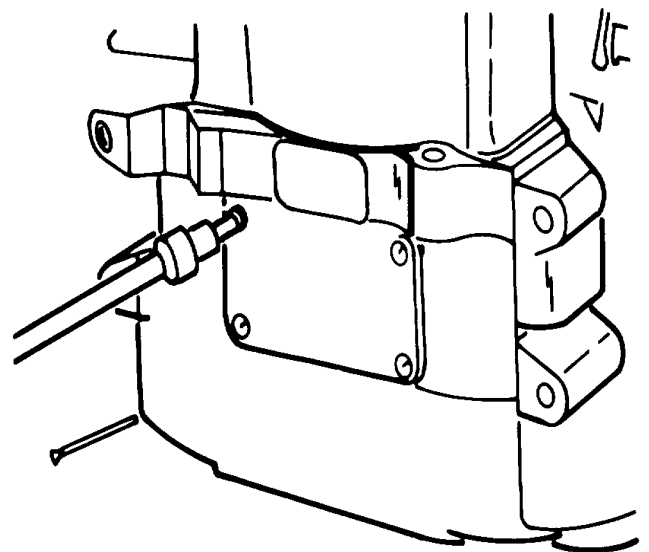

Figure A-19. Connecting Rod
o. Connecting Rod. Turn the engine onto its flywheel side. Remove the crankcase inspection cover by removing the six allen screws with a 4mm allen wrench. If these screws are very tight, tapping on them with a hammer and drift pin or flat-faced punch may help loosen them. (Figure A-19.)